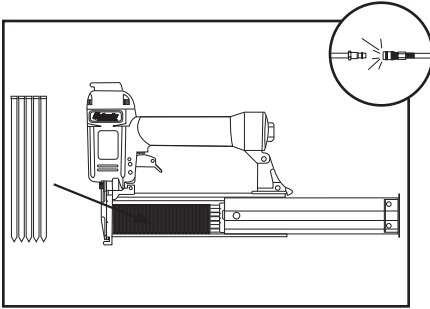

Figure 6. Loading nails into brad magazine.
4. Insert a strip of nails, pointed-end down, into the magazine as shown in **Figure 6**.